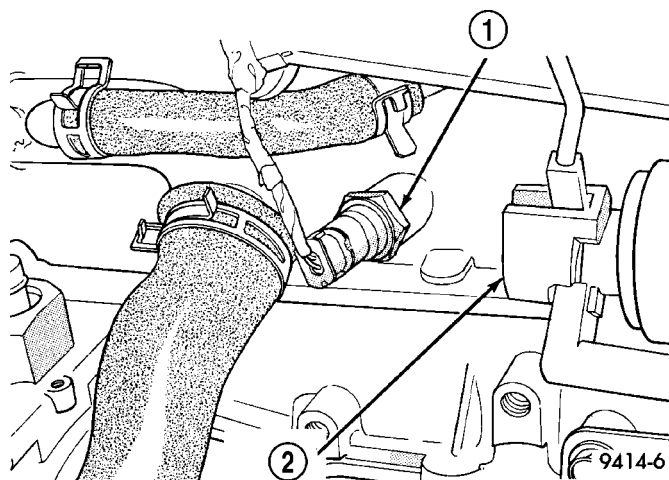

Fig. 138 Knock Sensor
(12) Disconnect the knock sensor (Fig. 138).
- (3) Position new manifold gasket on cylinder head mounting surface, piloting on the 2 attaching studs.
- (4) Loosely position manifold in engine compartment.
- (5) Insert engine wiring harness between middle intake runners.
- (6) Connect the knock sensor (Fig. 138).